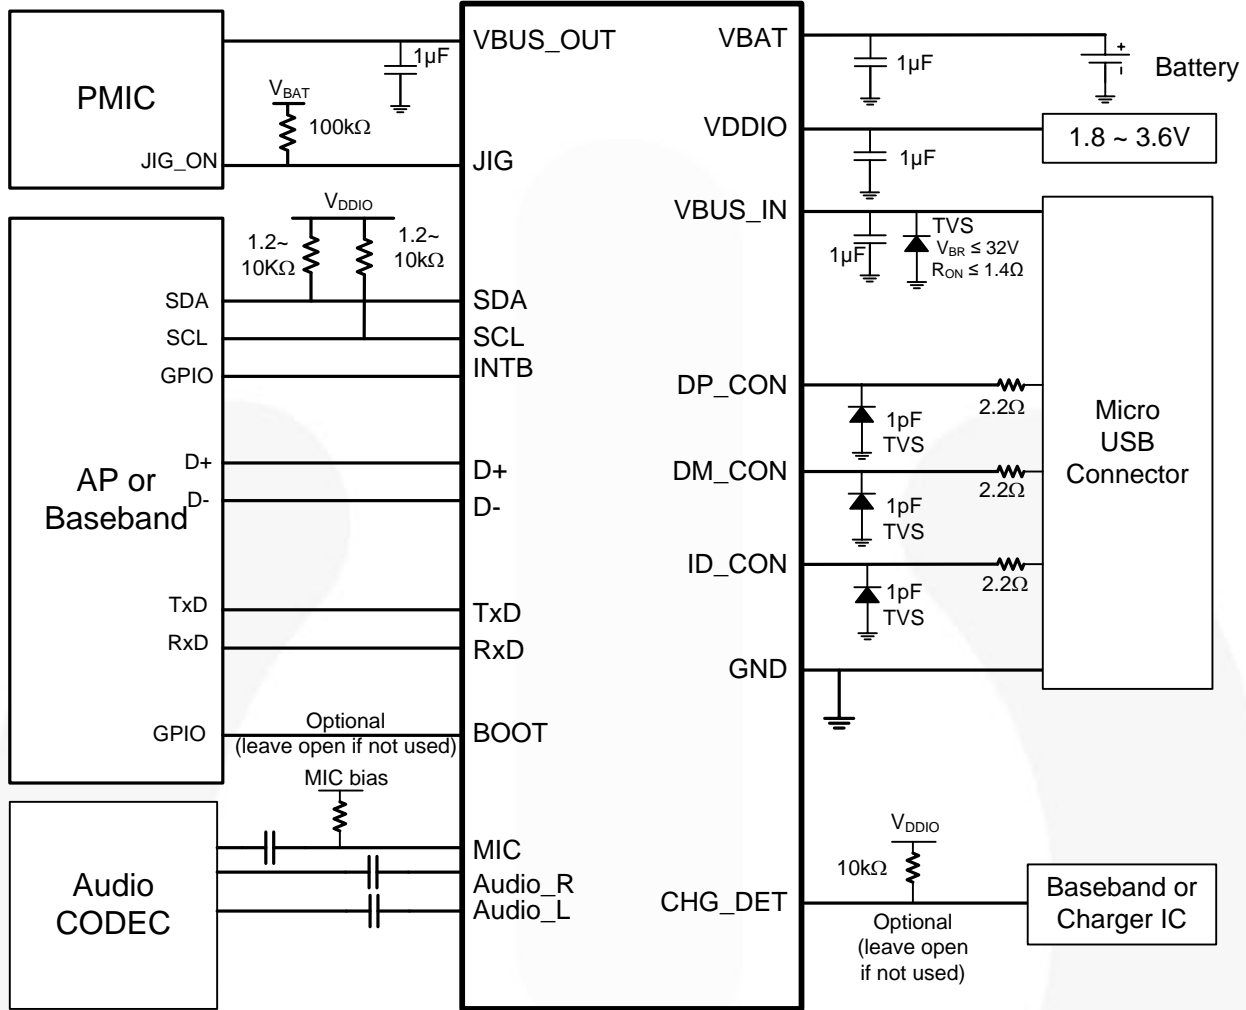

Figure 27. Reference Schematic
3. Add as large a decoupling capacitor as possible ( $\geq 1\mu\text{F}$ ) between the  $V_{BAT}$  pin and GND to shunt any power supply noise away from the FSA9280A. Also add decoupling capacitance at the PA (see the reference application schematic in Figure 27 for recommended decoupling capacitor values).
4. Add 33pF shunt capacitors on any PCB nodes with the potential to collect radiated energy from the phone transmitter. At a minimum, add these 33pF capacitors to the MIC pin (see Figure 27).